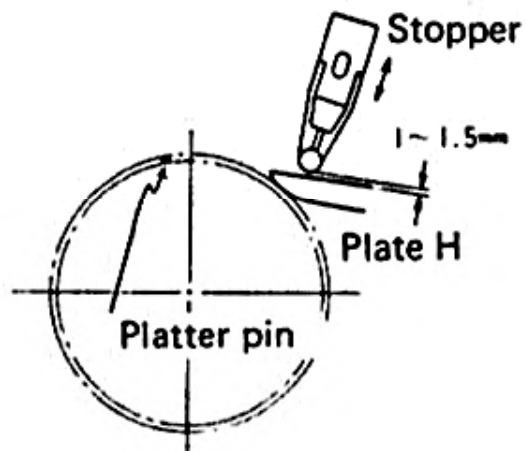

Fig. 21-a
5. Gently raise the platter. So that space between plate H and stopper becomes 1–1.5mm, adjust by moving stopper (Fig. 21-a).